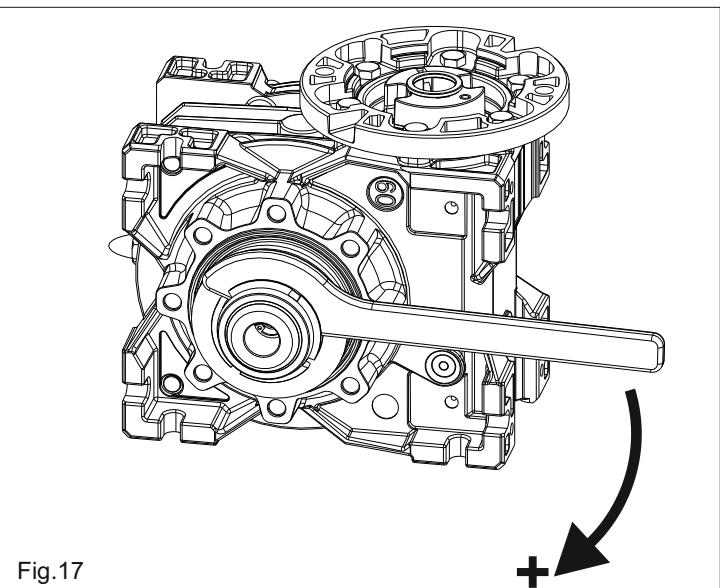

Fig.17
- **To increase** torque, turn the key **clockwise** (Fig.17).